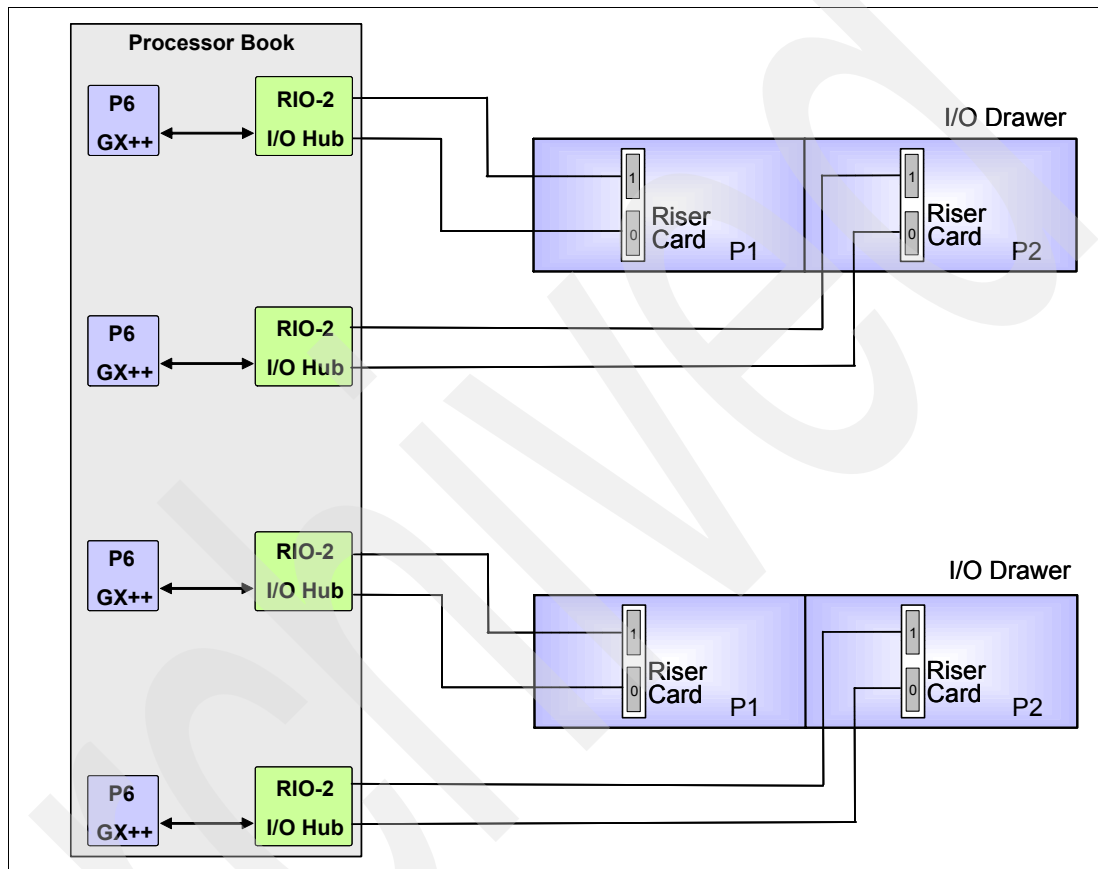

Figure 2-41 Dual loop I/O drawer (#5791)
- ▶ Dual-loop (Figure 2-41 on page 90) mode connects each of the two I/O planars (within the I/O drawer) to the CEC on separate loops. Dual-loop connection requires two I/O hub attachment adapters (#1814 or #1816) per connected I/O drawer. With a dual-loop configurations, the overall I/O bandwidth per drawer is higher.
Each of the two internal I/O drawer planars can be cabled and addressed by an I/O hub individually using the preferred, dual loop (half drawer) cabling as shown in Figure 2-41.